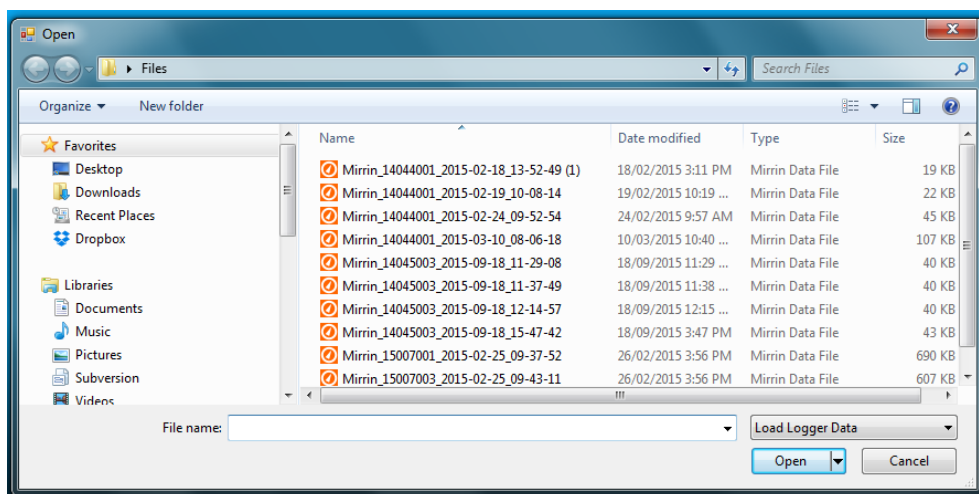

Figure 2.12.9.1
Step 1: Click on the 'Add Other file' button. A browsing window opens as shown in figure 2.12.9.1.